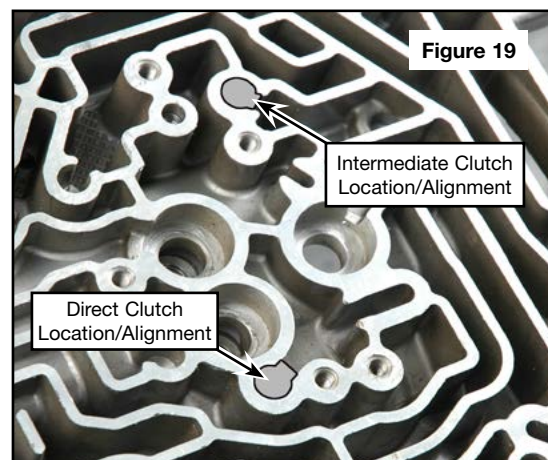

Figure 19
- Align locator guide nub with slot in case and insert Sonnax rubber seal into the intermediate feed port (Figure 19).